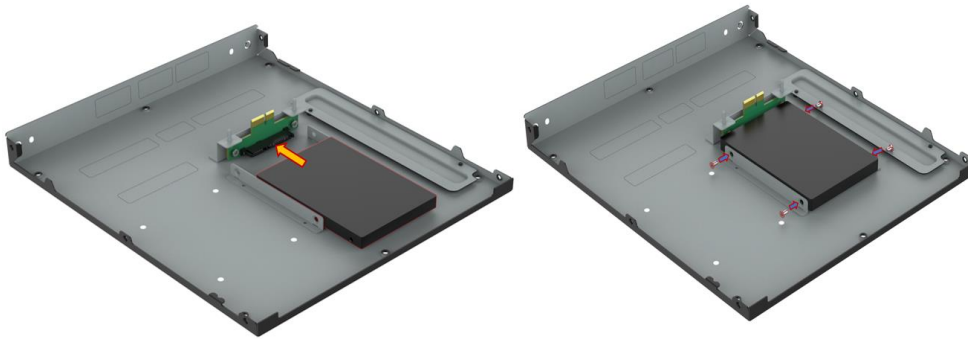

Figure 3-8: HDD Installation
Step 2: Secure the bracket with the hard drive using four screws. (**Figure 3-8**).